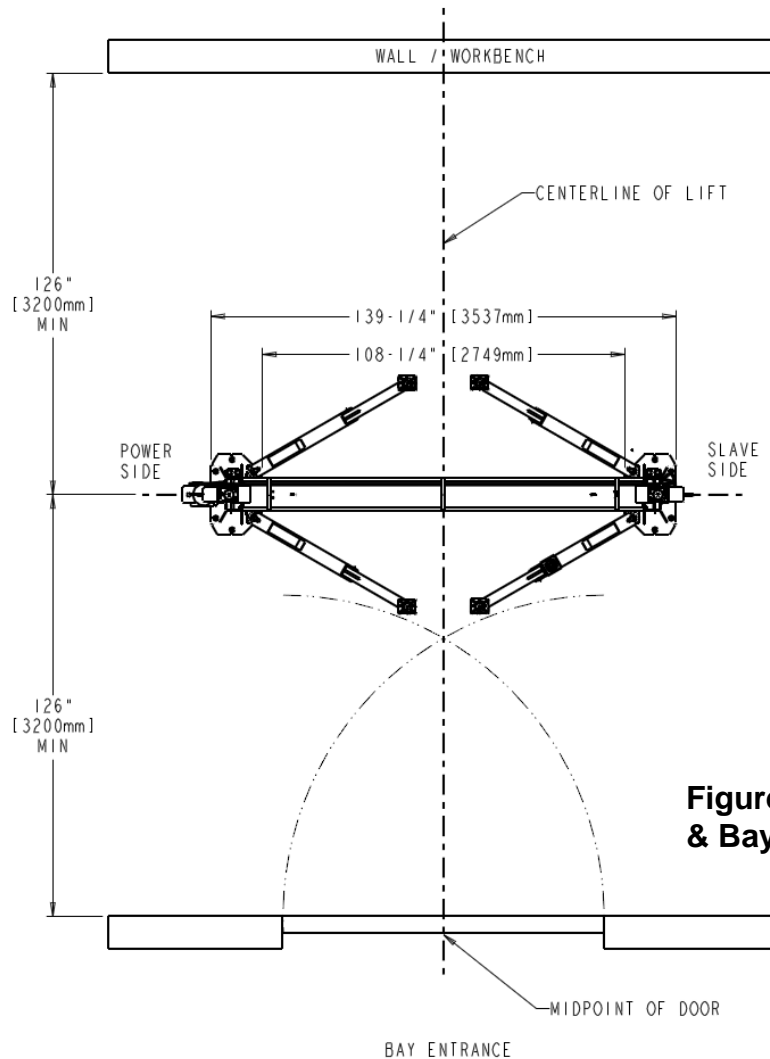

Figure 3. Chalk line & Bay Layout
6. Measure the specified distance (126") to draw a second chalk line at 90° for locating the lift towers. Refer to Figure 3.
3. Locate the power side and slave side towers and position them as shown in **Figure 3**. Double check all the dimensions in the layout.
5. Check the towers to make sure they are located, and positioned in the correct location. **Figure 3**.